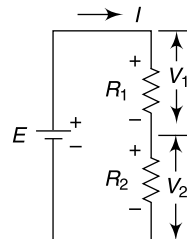

Fig. 4.5 Voltage divider (or potential divider) circuit
In Fig. 4.5 two series connected resistors are used as a *voltage divider* or *potential divider*.
In Fig. 4.5, the power (VA) dissipated in R_1 is given by